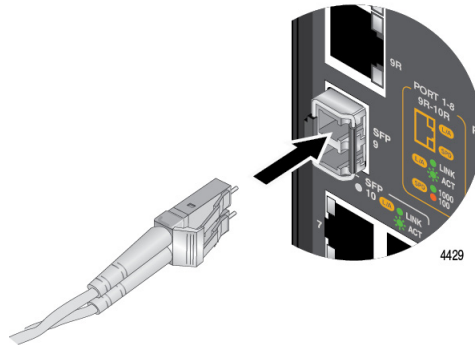

Figure 24. Connect Fiber Optic Cable To SFP Transceiver
5. Connect the fiber optic cable to the transceiver. The connector on the cable should fit snugly into the port, and the tab should lock the connector into place. Refer to Figure 24.